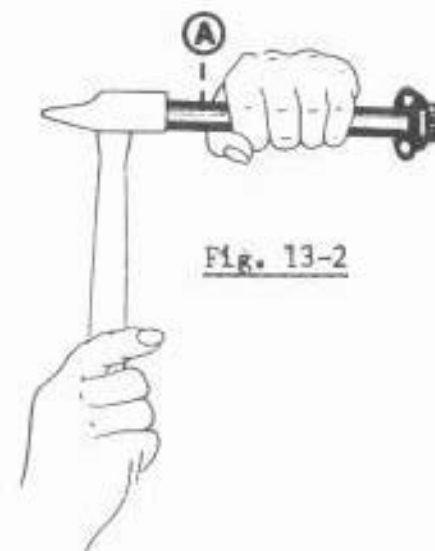

Fig. 13-2
- 7) Using a steel tube 23/32 i.d. x 7/8" o.d. x 6" tighten the cam onto the crankshaft by lightly tapping with a hammer (Final tightening will be made when the flywheel is installed. See Fig. 13-2.